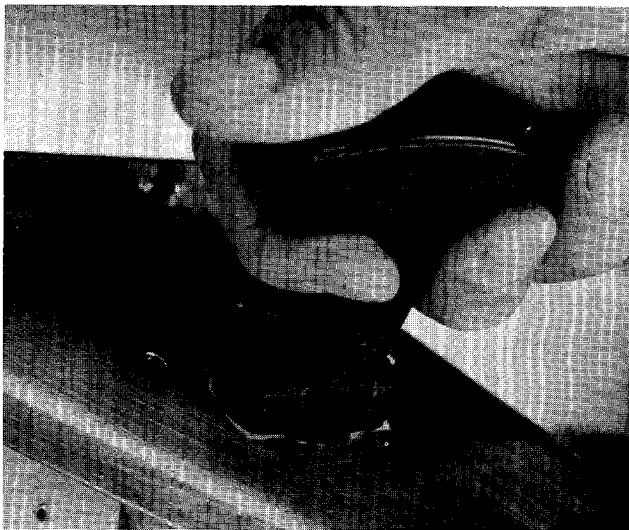

FIGURE 7. RECOIL STARTER
7. **Recoil Model.** Turn the ignition key to the ON position, twist the recoil starter handle until it is free and pull it with a quick steady motion. After the engine starts, return the recoil starter handle and twist it until it locks. See figure 7.